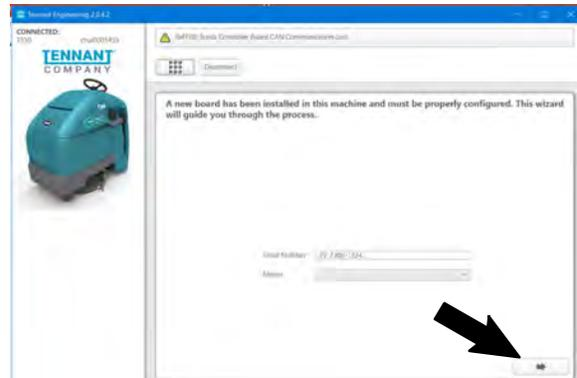

FIG. 23
10. The Service Diagnostics tool automatically detects a new communication board was installed. A Service Diagnostic window with text “A new board has been installed in this machine and must be properly configured. This wizard will guide you through the process.” appears on the screen. (Fig. 23)